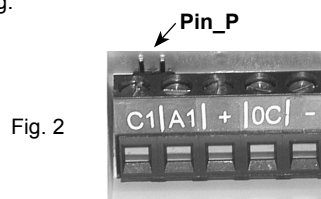

Fig. 2
1. Wire in a jumper on the two PIN_P contacts at the back of the terminal board (Fig. 2)
2. Press R and key 7 (simultaneously until the red led starts flashing)